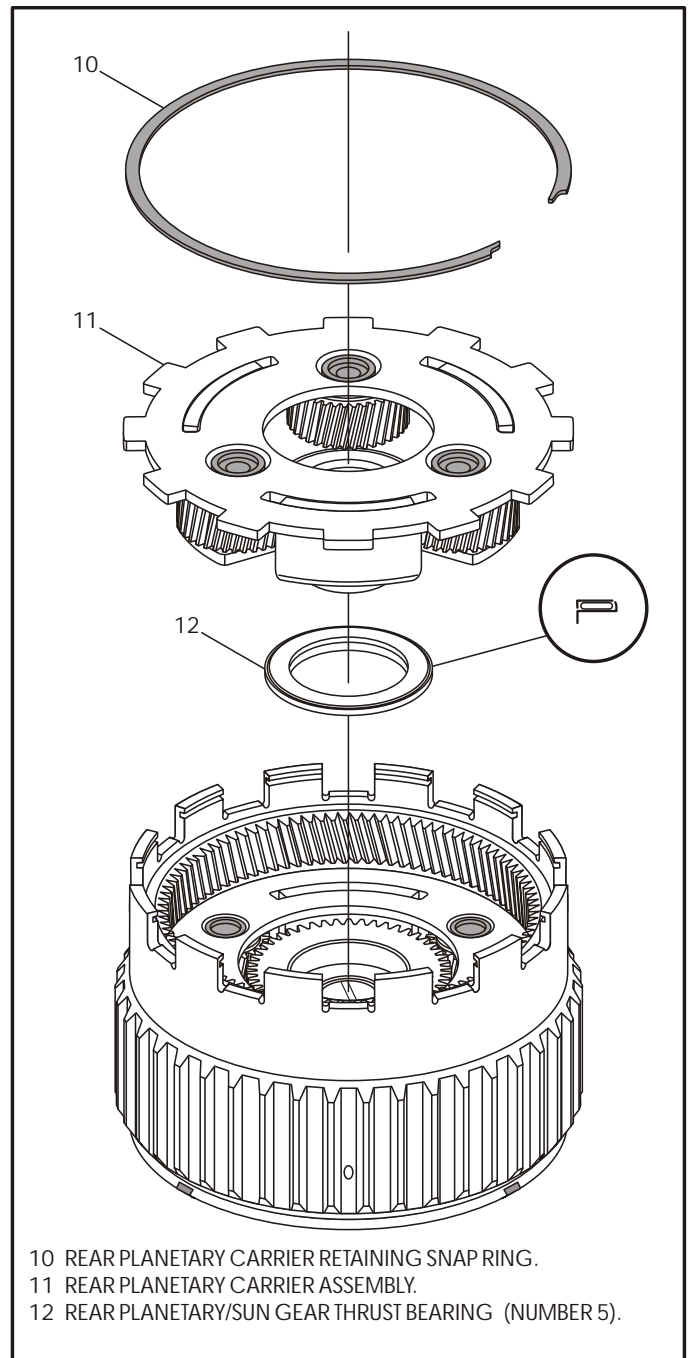

Figure 97
- Install the number five, rear planetary carrier thrust bearing, onto the front sun gear in the direction shown in Figure 97, with the inside lip facing down.
- Install the rear planetary carrier by rotating into position, as shown in Figure 97.
- Install the rear planetary carrier retaining snap ring, as shown in Figure 97.